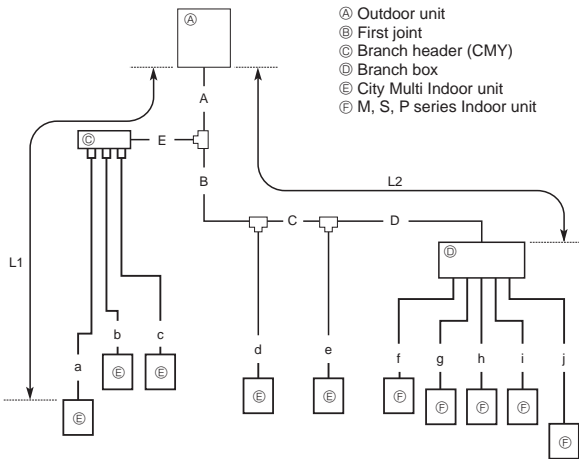

Fig. 4-7
4.1.3-3 Selecting pipe size (Fig. 4-7)